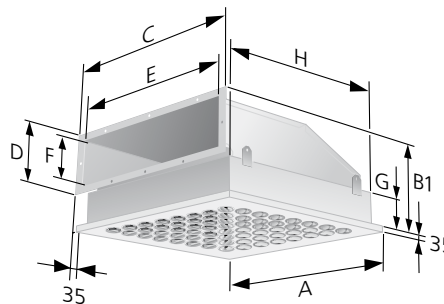

Figure 5. CDH/CLH, rectangular connection.
- The rectangular duct connection has a flange design. See Figure 5.